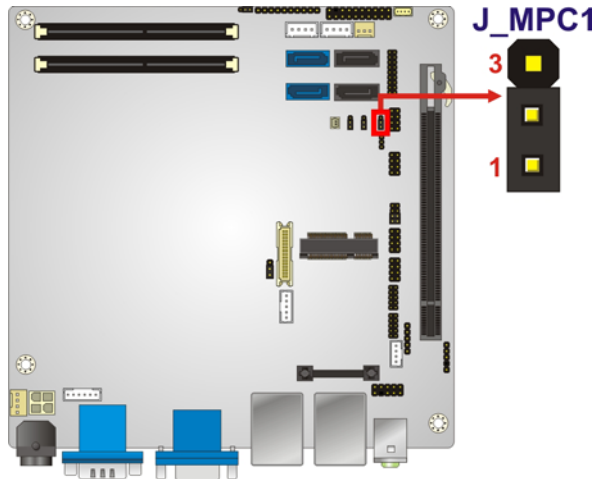

Figure 4-12: MPC Switch Control Jumper Location
- Jumper Location:** See Figure 4-12